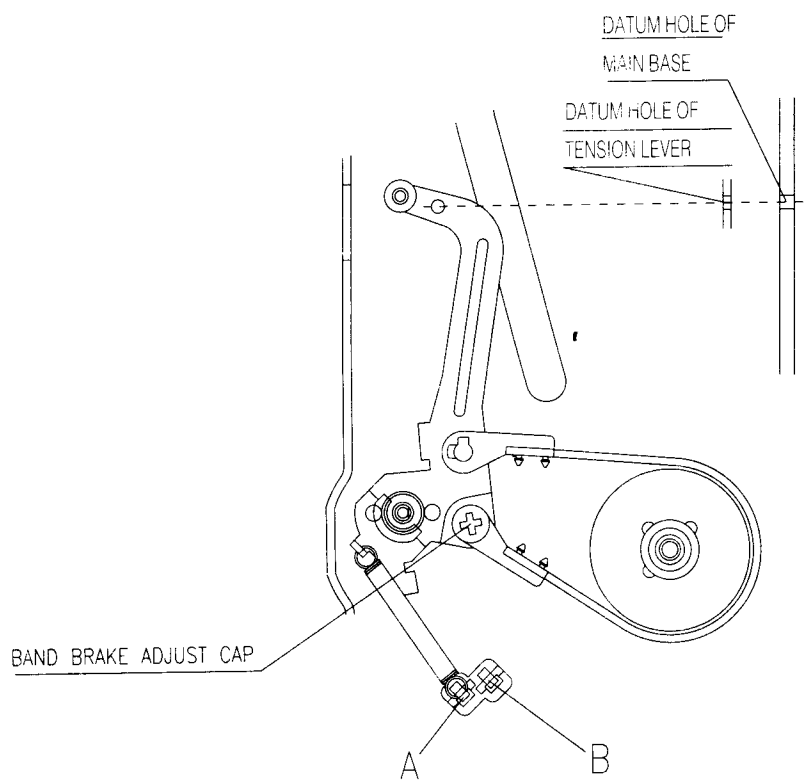

Fig. 4-7 TENSION POLE POSITION ADJUSTMENT
- If the measuring result is not within this specification, refer to the below NOTE or repeat "4-4 TENSION POLE POSITION ADJUSTMENT". (Fig. 4-7)